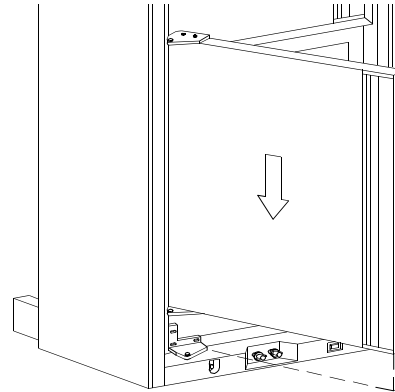

Figure 10
9. Turn the door over so that the end previously at the bottom is now at the top. Relocate the bottom of the door on the bottom hinge pin shoulder. Close door and align holes in top hinge brackets. The magnetic gasket will hold the door in place. Before reinstalling the top door, check to insure that the spacer is in place. (See Figures 10 and 12 - C)